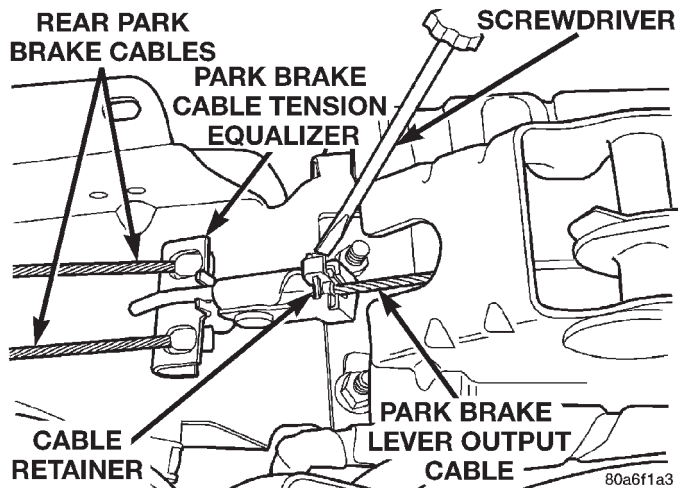

Fig. 135 Output Cable To Equalizer Retaining Clip
(9) Using a screwdriver (Fig. 135) unlatch the park brake output cable retainer. Then remove cable retainer from park brake cable tension equalizer.